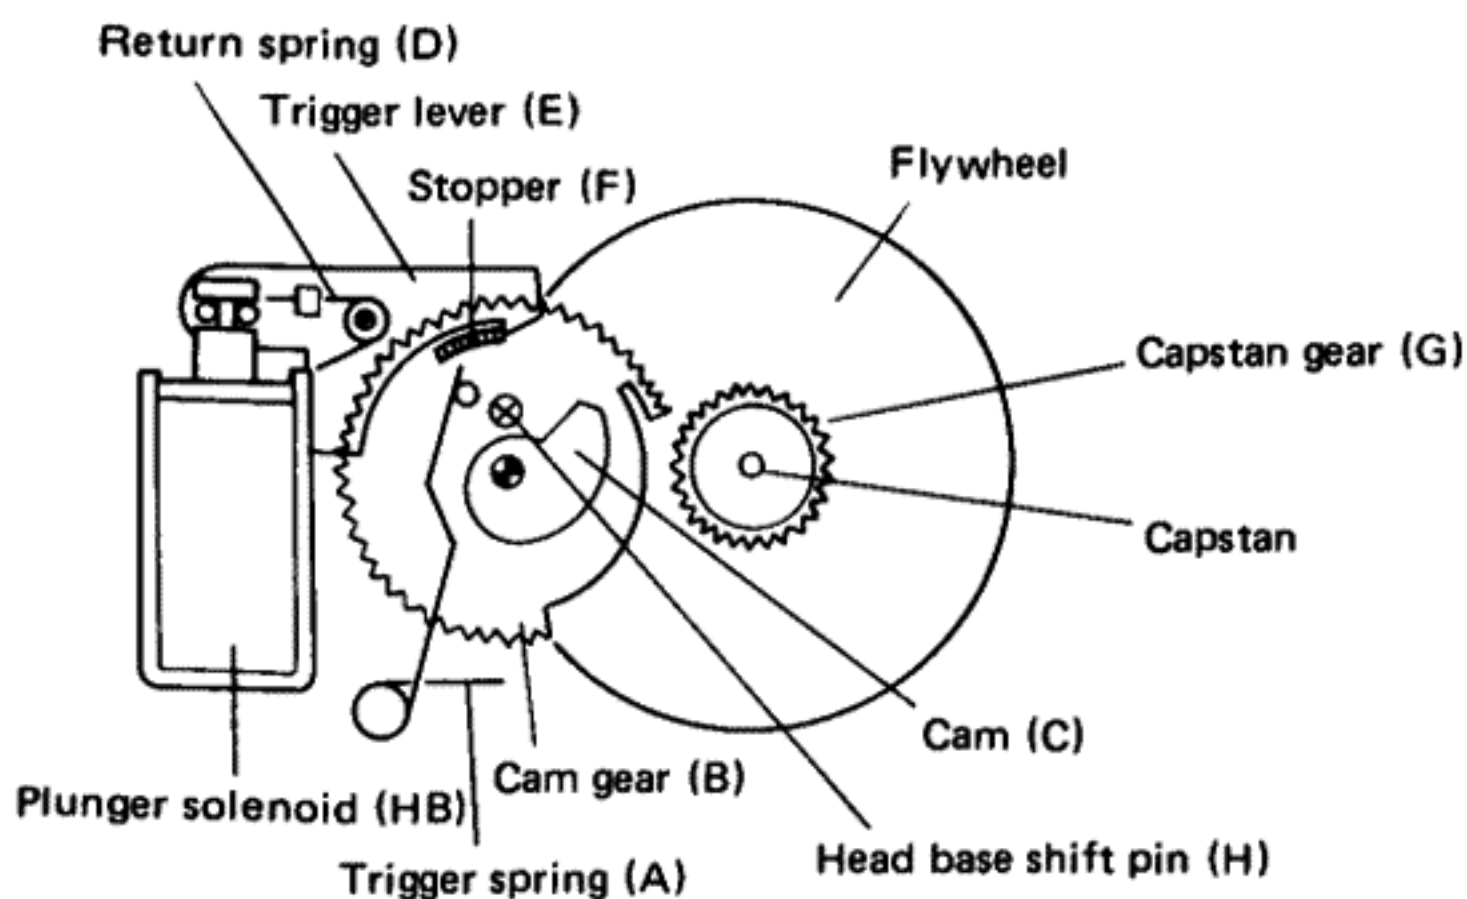
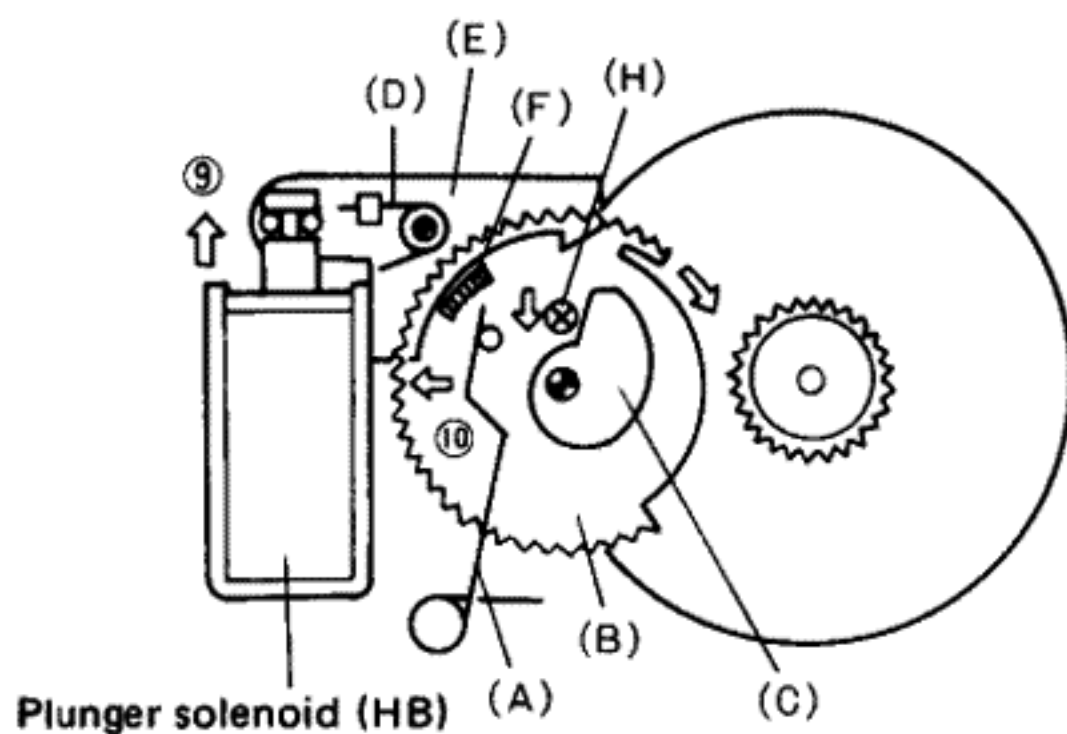

Fig. 4-1 Head base shift mechanism (STOP status)
Fig. 4-6 PALY to STOP operation
### • When Stopping (Fig. 4-1)
The head base shift mechanism during stop mode is outlined in Fig. 4-1. In this state, cam (C), stopper (F), and cam gear (B) combine to form a single unit. The flywheel is belt-driven by the capstan motor and rotates counterclockwise together with the capstan gear (G). The trigger spring applies clockwise torque to cam gear (B).
- PLAY → STOP (Fig. 4-6)
9. The plunger solenoid (HB) is deactivated.
10. Spring (D) disengages lever (E) from stopper (F).
11. Gear (B) rotates due to spring (A).
12. The shift pin (H) is lowered by cam (C).
13. Stopper (F) is caught by the hook of lever (E), bringing the mechanism to the same stop state as shown in Fig. 4-1 (stop mode).